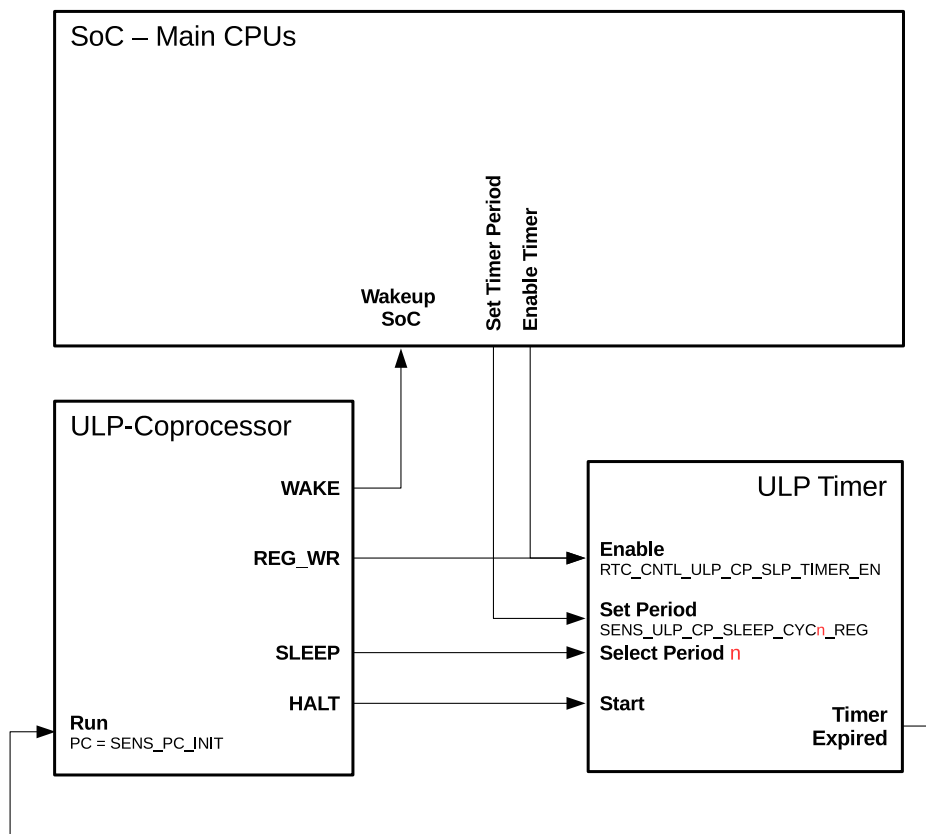

Figure 170: Control of ULP Program Execution
The ULP coprocessor puts itself into sleep mode by executing the `HALT` instruction. This also triggers the ULP timer to start counting `RTC_SLOW_CLK` ticks which, by default, originate from an internal 150 kHz RC oscillator. Once the timer expires, the ULP coprocessor is powered up and runs a program with the program counter (PC) which is stored in register `SENS_PC_INIT`. The relationship between the described signals and registers is shown in Figure 170.